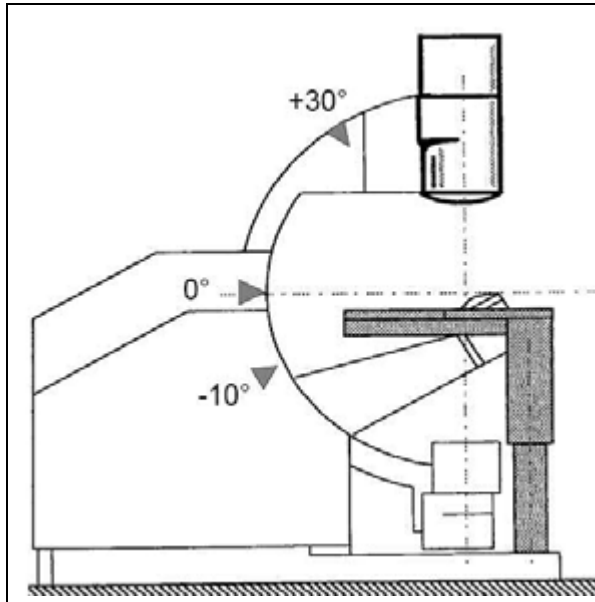

Fig. 17: C_arm_orbital
- Align the reference edge of the unit cover and the reference mark (arrow) ((Fig. 17 / p. 51)).